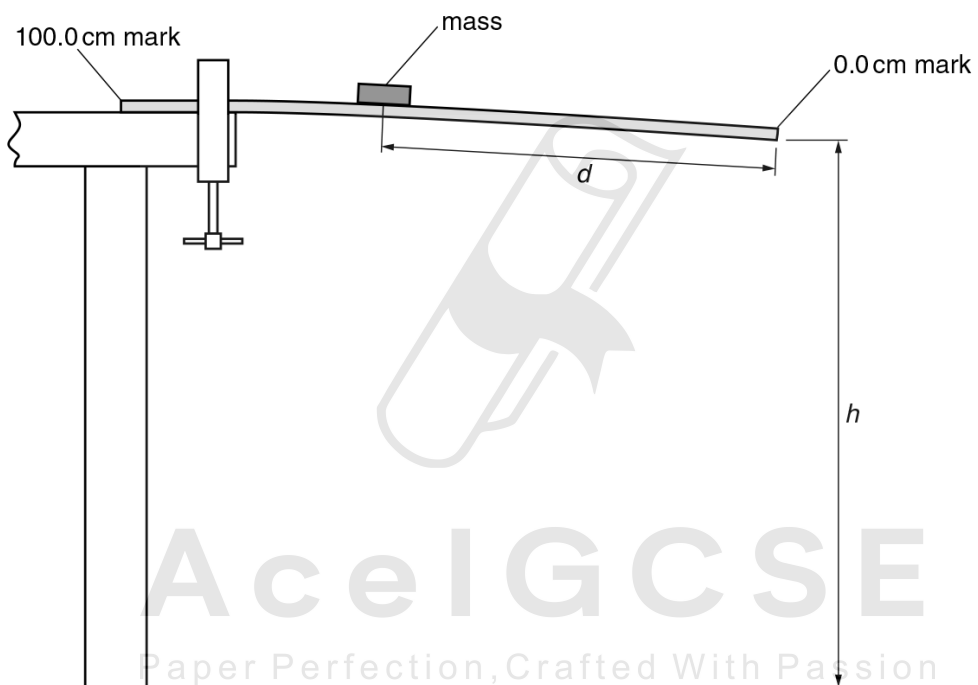

Fig. 1.2
- (c) Fig. 1.2 shows the mass in place on the rule.
- (i) On Fig. 1.2, measure h .
- (ii) Fig. 1.2 is also drawn to 1/10th scale.